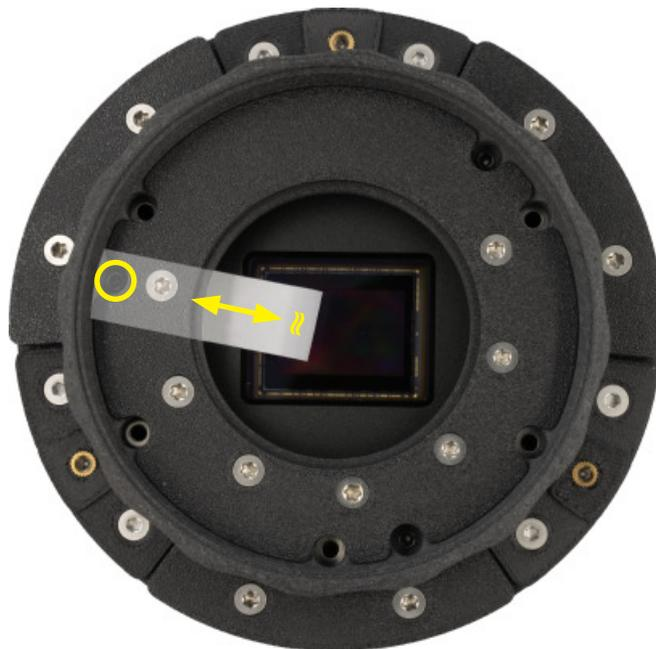

fig. 40
4. Using a 2 mm hex wrench, start to screw in the tilt adjustment screw. After a minimal turn, try moving the paper strip to get a feel for whether the screw is already touching it (see fig. 40). If not, again take a minimal step and lightly turn the screw. Repeat the resistance measurement with the strip.
Note: In fig. 40, the outline of the white strip under the drawer has been artificially applied to the photo to better illustrate its placement.